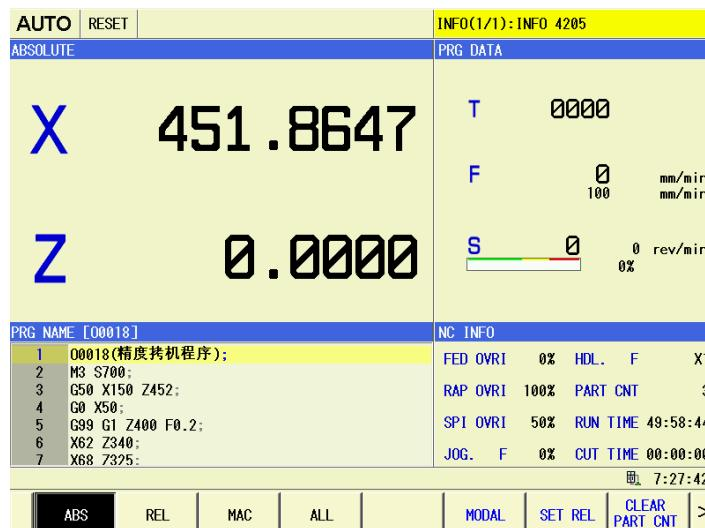

Fig. 6-2
- (3) During resetting, press  software key, and the selected program is loaded into the block area in the position page set, and it can be executed currently, and the page is skipped into the position display page, which is shown as Fig. 6-2: